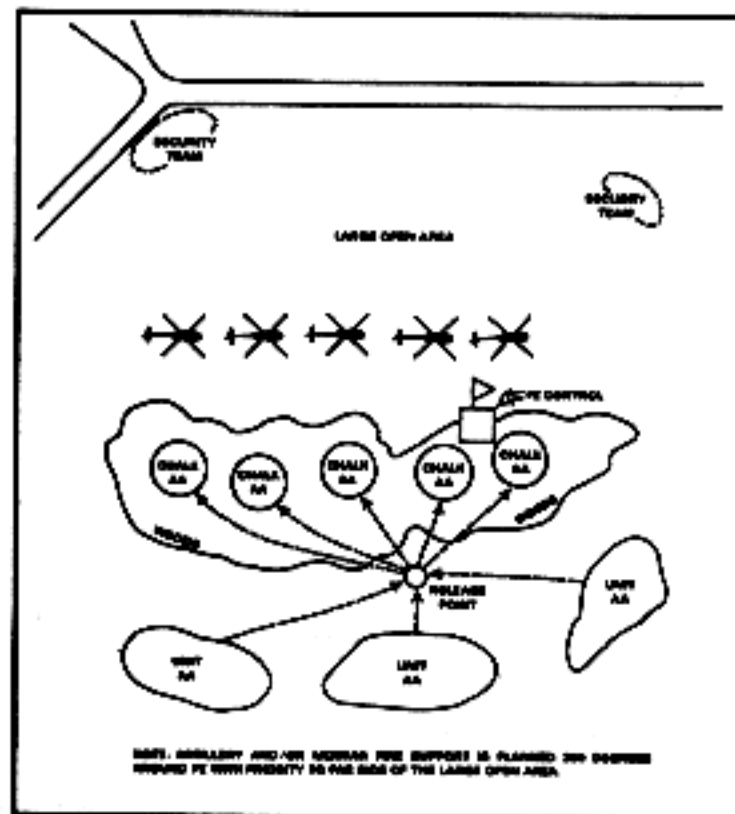

Figure B-9. Large, one-sided P2
(1) Occupation of platoon/squad assembly area. Platoon leader/squad leader should accomplish the following:
(2) Movement to and occupation of Chalk Assembly Area. Linkup guides from the P2 control party will meet with designated squads in the platoon assembly area and coordinate movement of squads to a release point. As squads arrive at the release point, squad guides will move each squad to its assigned chalk assembly area. To reduce the number of personnel required, the same guide may be used to move the squad from the platoon assembly area to the chalk assembly area. If part of a larger air assault, no more than three chalks should be located in the chalk assembly area at one time. Noise and light discipline will be maintained throughout the entire movement in order to maintain the security of the P2. Additionally, no personnel should be allowed on the P2 unless loading aircraft, rigging vehicles for slingload, or directed by P2 control. While remaining in chalk order, each Ranger is assigned a security (firing) position by the squad leader and emplaced in the prone position, weapon at the ready, and facing out (away from P2) to provide immediate close-in security. An example of a large, one-sided P2 is depicted in Figure B-9.